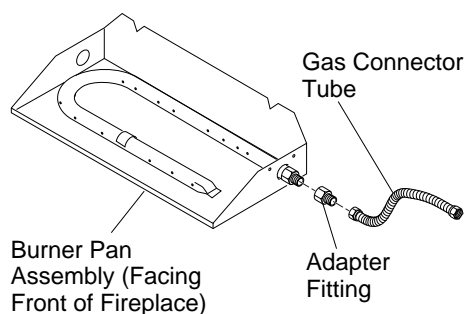

Figure 8 - Connecting Gas to Appliance
3. Install adapter fitting onto the burner inlet fitting using thread sealant on male threads of burner inlet fitting (see Figure 8).